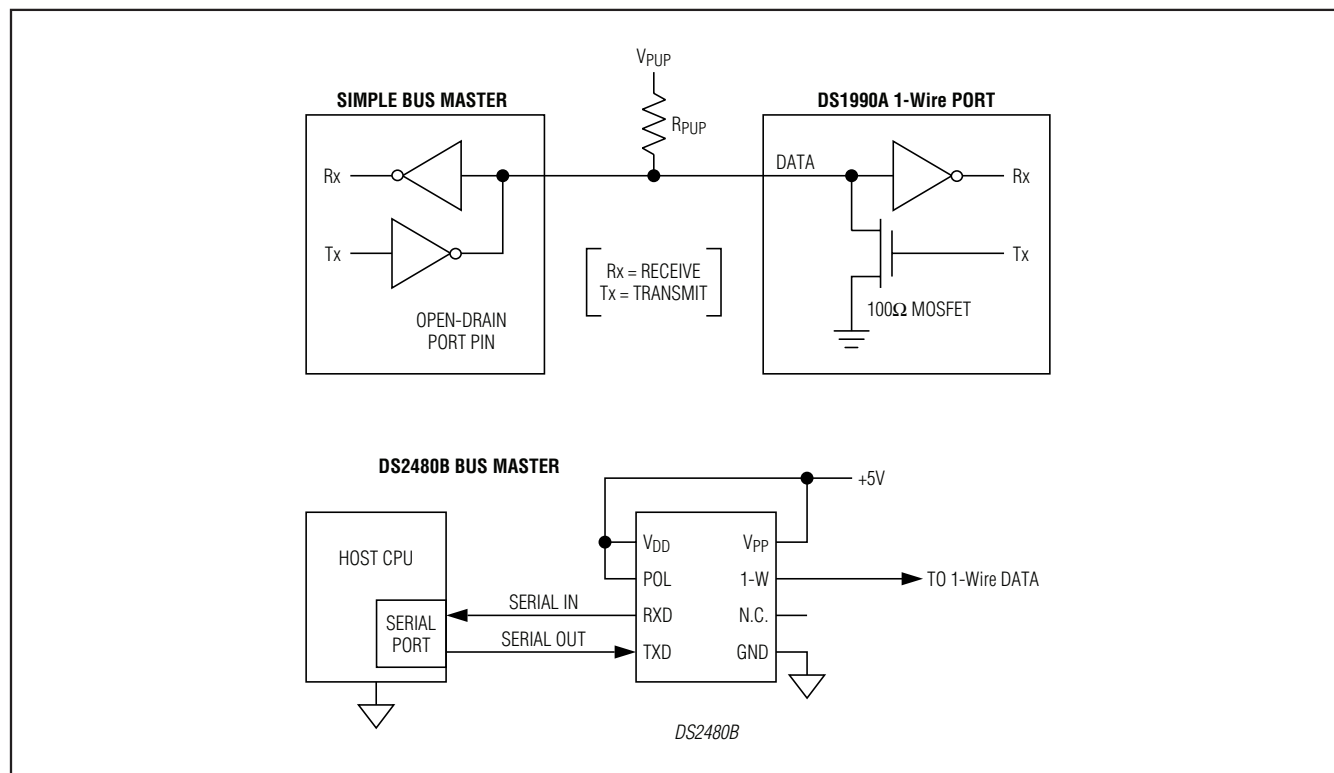

Figure 4. Hardware Configuration
**Note 2:** External pullup voltage. See Figure 4.
The 1-Wire bus has only a single line by definition; it is important that each device on the bus be able to drive it at the appropriate time. To facilitate this, each device attached to the 1-Wire bus must have open-drain or three-state outputs. The 1-Wire port of the DS1990A is open drain with an internal circuit equivalent to that shown in Figure 4. A multidrop bus consists of a 1-Wire bus with multiple slaves attached. At standard speed, the 1-Wire bus has a maximum data rate of 16.3kbps. The value of the pullup resistor primarily depends on the network size and load conditions. For most applications, the optimal value of the pullup resistor is approximately 2.2k $\Omega$ . The idle state for the 1-Wire bus is high. If for any reason a transaction needs to be suspended, the bus **must** be left in the idle state if the transaction is to resume. If this does not occur and the bus is left low